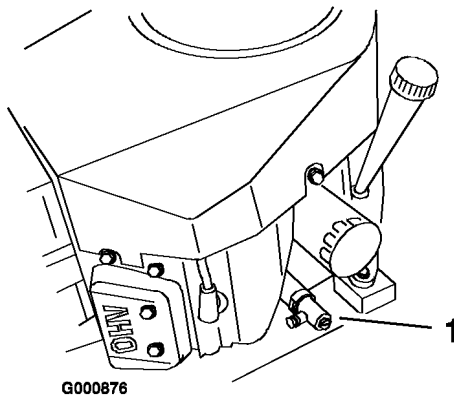

Figure 25
5. Slide the drain hose over the oil drain valve (Figure 25).
6. Place a pan below the oil drain hose. Use either a flat screw driver, 3/8 inch (10 mm) wrench to open valve (Figure 25).
7. Rotate valve end counterclockwise to open valve (Figure 25).
8. When oil has drained completely, rotate valve end clockwise to close the valve (Figure 25).
10. Clean around the oil dipstick and unscrew the cap (Figure 25).
11. Slowly pour approximately 80% of the specified oil into the filler cap (Figure 25). Refer to Servicing the Engine Oil, in Engine Maintenance, page 24.